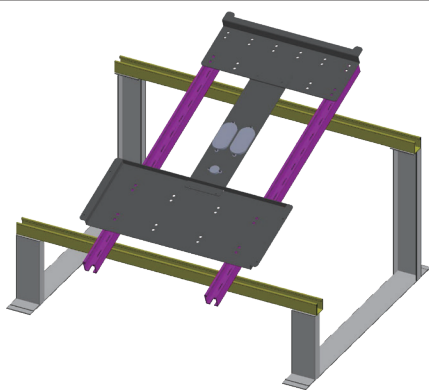

Figure 3-11: Wall mount fixed prior to inverter
1. Install the wall mount bracket to the rack system prior to installing the inverter. Do not allow bending of the bracket. See **Figure 3-11**.